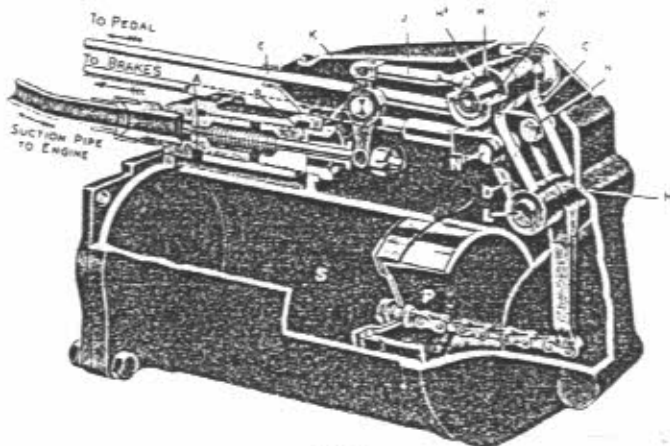

Fig. 6.
**How it Operates.**—The normal positions of the various parts when the brake is not in use are as illustrated (Fig. 6), the levers C and D resting against the stop M. When the brake pedal is depressed and a pull exerted on the rod E, the lever C is pulled forward, causing a push on the rod J and so opening through the rocking lever K the valve A, which puts the suction cylinder S into communication with the suction pipe of the engine. The suction acting on the piston P exerts a pull on the lower end of the lever C, which, using N as its fulcrum point, carries with it the lever D and augments or supplements the push on rod F in the ratio of 4 to 5 on the part of the Servo to 1 applied by the driver.